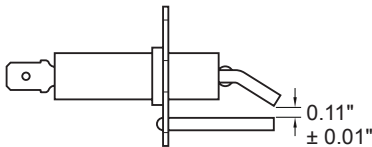

Figure 14 - Ignitor Gap
5. Clean and regap spark ignitor electrodes to 0.11" ± 0.01" gap (see Figure 14).